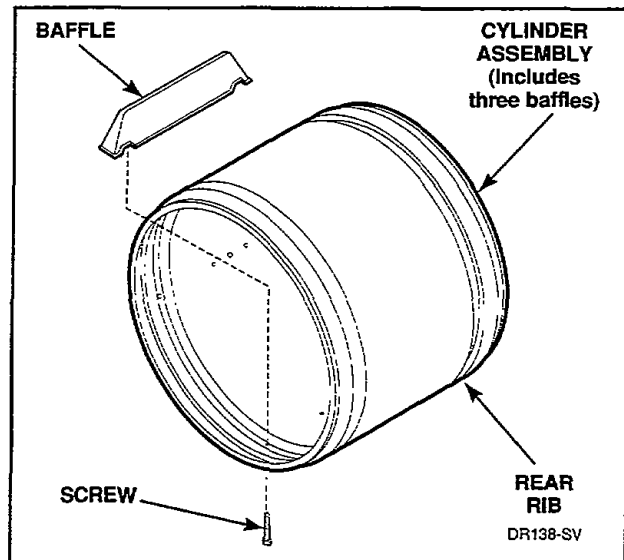

Figure 35
NOTE: When installing belt, make sure belt is properly installed on motor and idler pulleys, and is on the correct side of the idler lever, *Figure 26*. Belt must be positioned around cylinder approximately three inches ahead of rear rib on cylinder, *Figure 35*, with the ribbed surface of the belt against cylinder. After installing belt, manually rotate cylinder **counterclockwise** to check that belt is properly aligned.
NOTE: When installing belt, make sure belt is properly installed on motor and idler pulleys, and is on the correct side of the idler lever, *Figure 26*. Belt must be positioned around cylinder approximately three inches ahead of the rear rib on cylinder, *Figure 35*, with the ribbed surface of the belt against the cylinder. After installing belt, manually rotate cylinder **counterclockwise** to check that belt is properly aligned.
- Baffles** - Remove screws holding baffles to cylinder, *Figure 35*.
NOTE: When reinstalling belt, make sure belt is properly installed on motor and idler pulleys and is on the correct side of the idler lever, *Figure 26*. Belt must be positioned around cylinder approximately three inches ahead of rear rib on cylinder, *Figure 35*, with the ribbed surface of the belt against cylinder. After installing belt, manually rotate cylinder **counterclockwise** to check that belt is properly aligned.